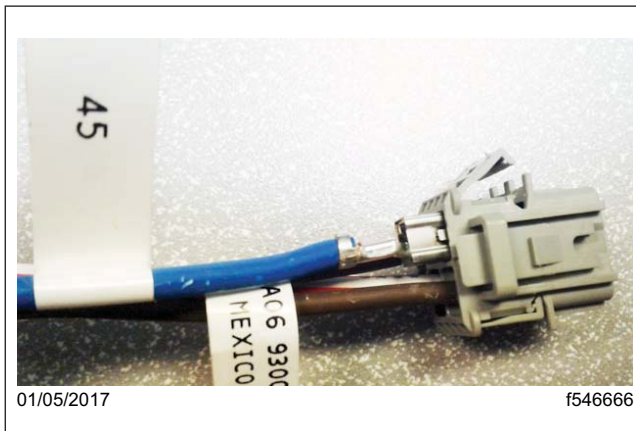
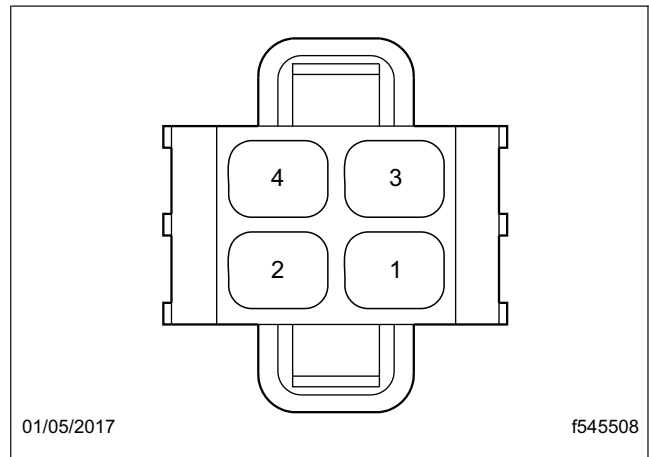

Fig. 4, Circuit 45 into Connector 55B
Fig. 5, 55B Pinout (view from insertion point)
6. Insert circuit 45 (dark blue) from harness A06-93209-000 into cavity 1 of connector 55B. See Fig. 4 and Fig. 5.